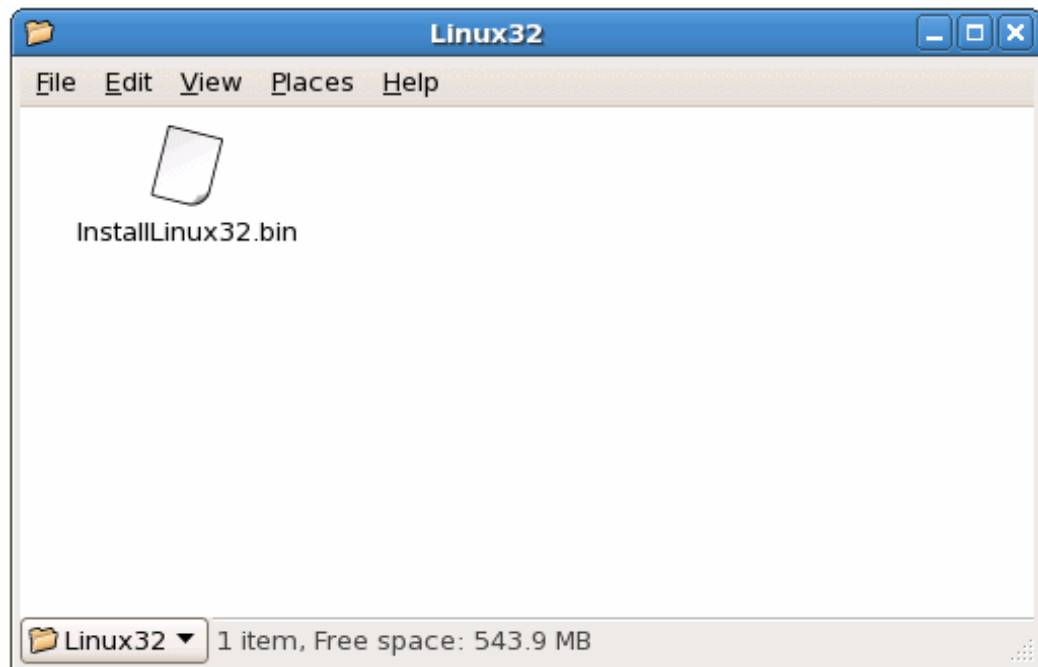

Figure 5-9 Linux content folder
4. From the installation folder, select the `InstallLinuxXX.bin` file (where `XX` is 32 or 64, depending on the folder that you are in) and drag the file onto your desktop. You can also drag the file to any other location. For this example, we copied it to the desktop. See Figure 5-9.